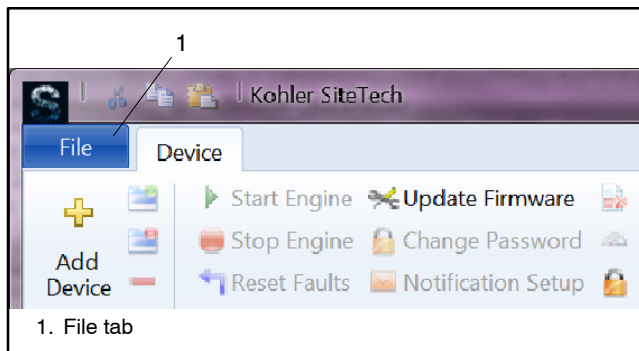
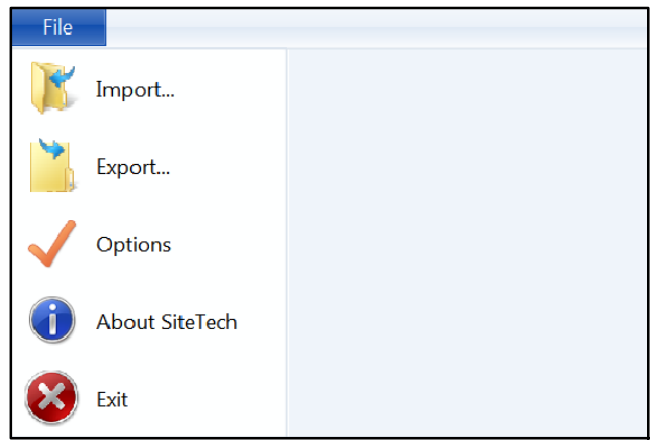

Figure 3-3 Click the File Tab
Figure 3-4 Import and Export Commands
1. Click on the *File* tab in the upper left corner of the screen to open the file import and export commands screen. See Figure 3-3 and Figure 3-4.
1. Click on the File tab in the upper left corner of the screen to reveal the file import and export commands. See Figure 3-4.